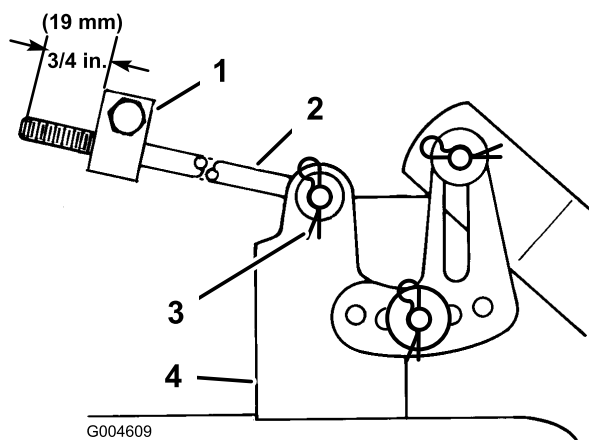

Figure 47
11. Measure the length of the rod extending out of the front of the adjusting block on the sides of the chassis (Figure 47). If the rod length is not 3/4 inch (19 mm), remove the hairpin cotter and washer from the end of the rod (Figure 47) and turn the rod until it extends out 3/4 inch (19 mm).